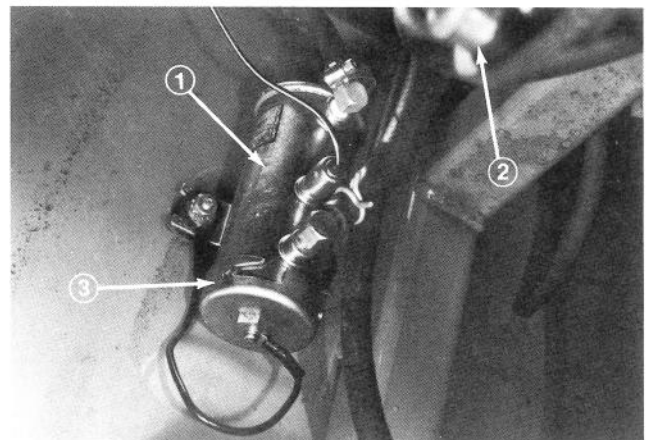
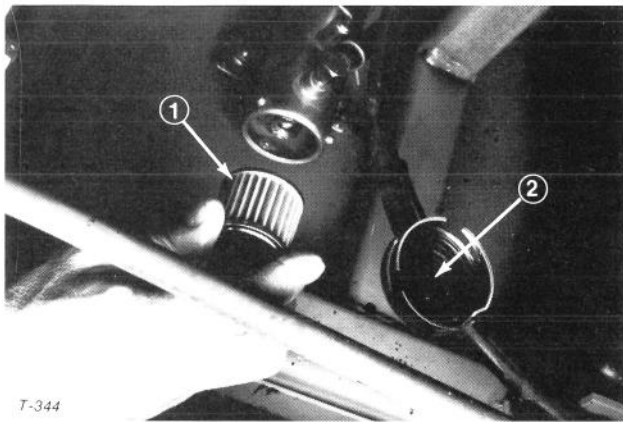

Figure 46
Figure 47
1. Fuel pump is located on inner frame bulkhead to left of drive coupling assembly (Fig. 46).
3. Place a drain pan under fuel pump and remove cover from fuel pump with 17 mm wrench (Fig. 46). Take care not to damage wire while removing cover.
4. Pull filter out of pump body (Fig. 47).
6. Clean magnet of any residue (Fig. 47), insert filter into body and install cover (Fig. 46).